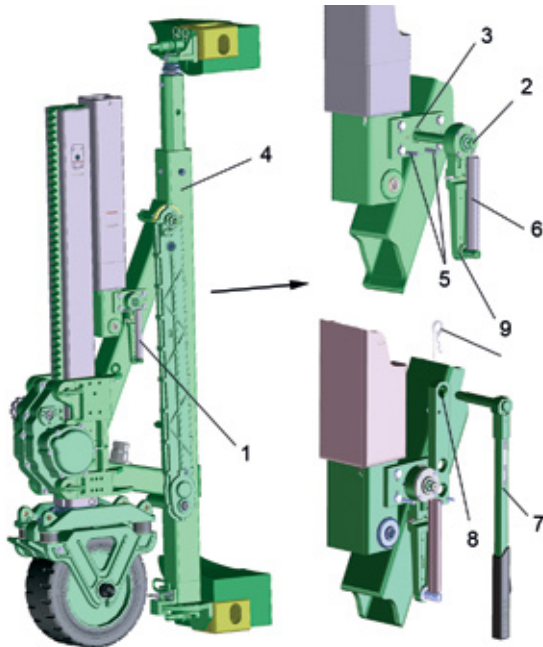

fig. 9-10
- Insert torque wrench (7) into borehole (8) and secure with clip connector (9). (see fig. 9-10)